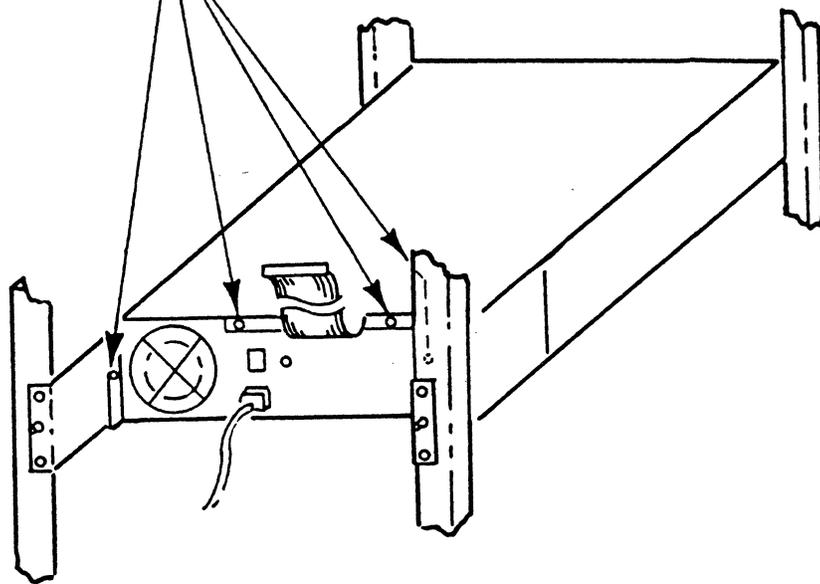

Figure 2-1e. Top/Sides Installation
Step 8. Install four screws from the rear of the racks as shown in Figure 2-1e. Attach the AC power cord to the WINC-08.